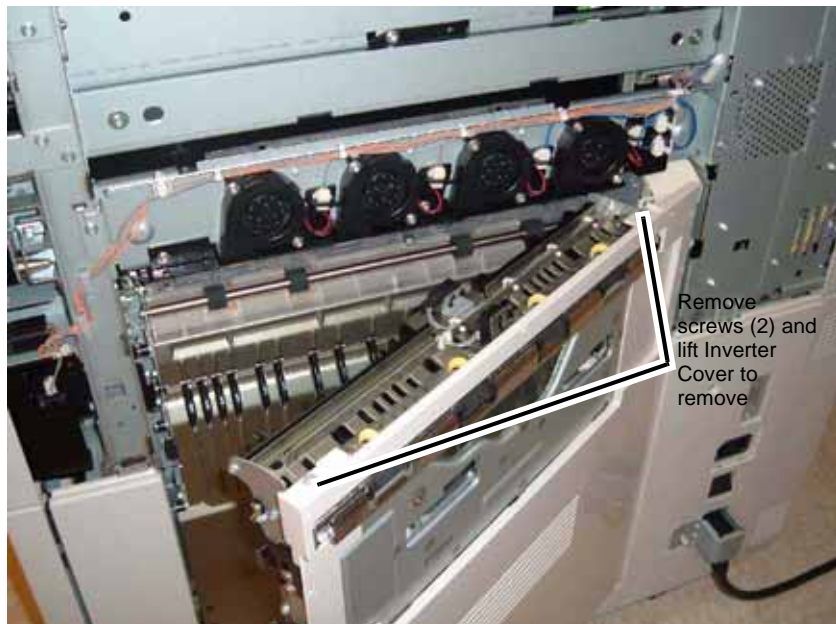

Figure 2 Removing the Inverter Cover
4. Remove the Inverter Cover (Figure 2).